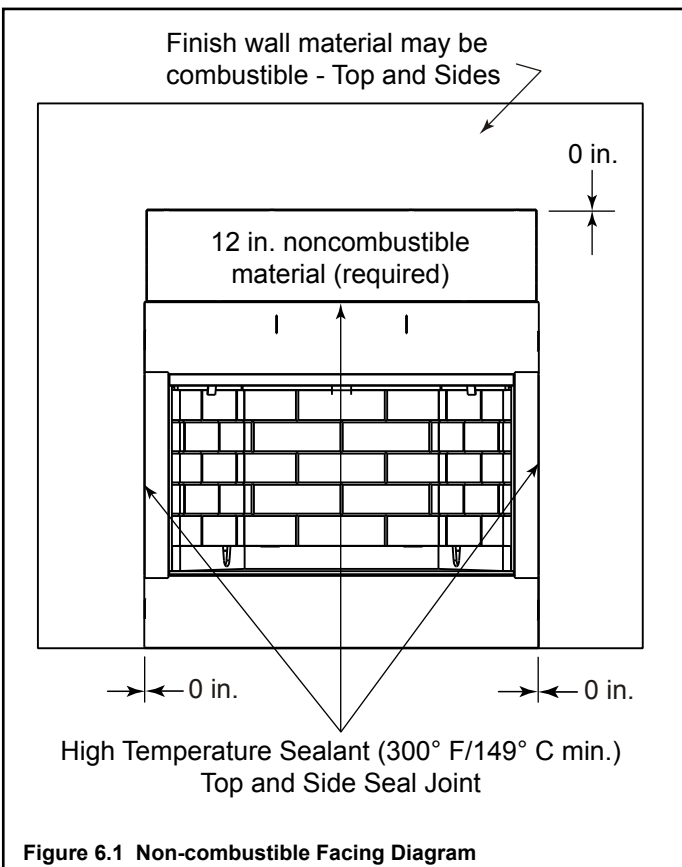

Figure 6.1 Non-combustible Facing Diagram
- Seal joints between the finished wall and appliance top and sides using a 300° F minimum sealant. Refer to Figure 6.1.